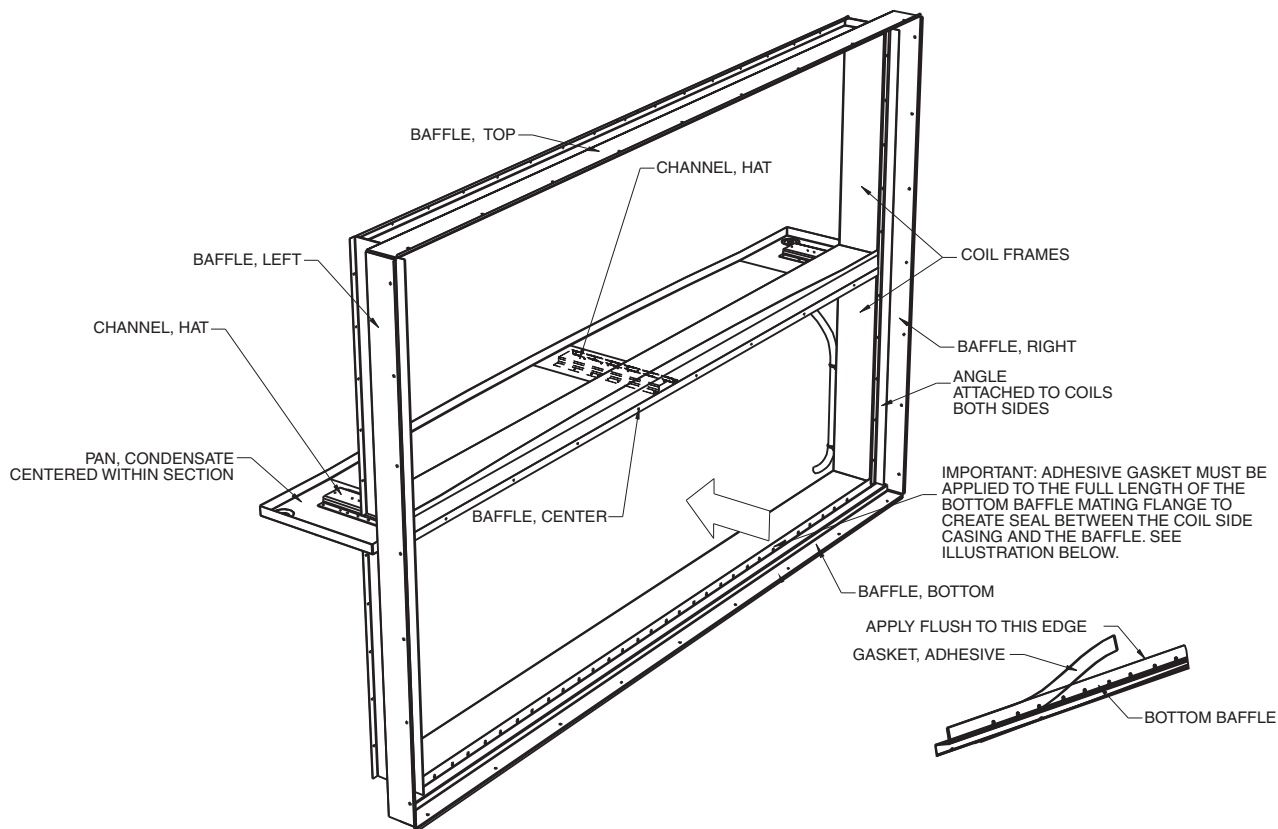

Fig. 202 — Coil Frames and Baffle
4. Remove the fastening screws of the uppermost coil from the upstream side. Note that the fastening screws pass through the vertical angle, baffles, and coil casing. See Fig. 202. Removal of the fastening screws may require reaching through an opened damper assembly, reaching through a filter track after filters are removed, or removing a coil immediately upstream.
7. On the upstream side of the stacked coils, remove and set aside the center baffle spanning the two coils. (See Fig. 202).
12. Remove the fastening screws of the lowermost coil from the upstream side. Note that the fastening screws pass through the vertical angle, baffles, and coil casing. (See Fig. 202). Removal of the fastening screws may require reaching through an opened damper assembly, reaching through a filter track after filters are removed, or removing a coil immediately upstream.
15. Inspect the adhesive backed gasket applied to the lower baffle, spanning the entire unit, on the surface that contacts the coil. (See Fig. 202). If damaged, remove the remainder of the old gasket and replace.